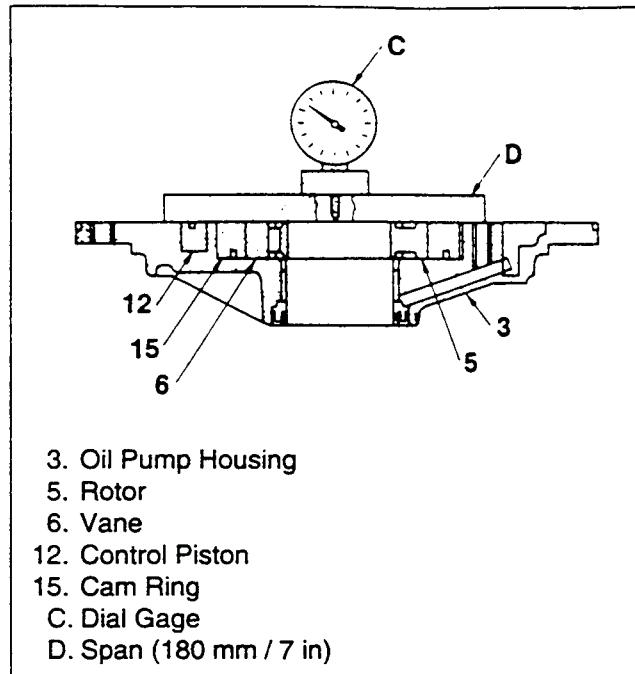

**Figure 67. Side Clearance Measurement (1)**
4. Measure the side clearance (figures 67 and 68).